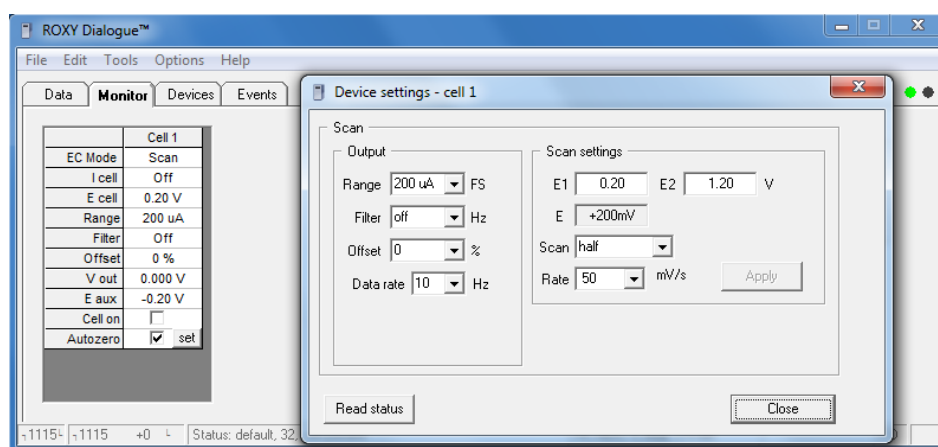

Fig. 7. Scan mode configuration window.
4. Calculate the dead volume between ReactorCell and the ionization source of the mass spectrometer and recalculate the potentials to corresponding analysis time points (Fig. 7).
6. Check neighbouring potentials if the estimation made in point 5 was accurate. E.g. from figure 7 the optimal potential is between 1050 mV to 1250 mV. 1100 mV was chosen to further tests, but also 1200 mV and 1000mV were checked.